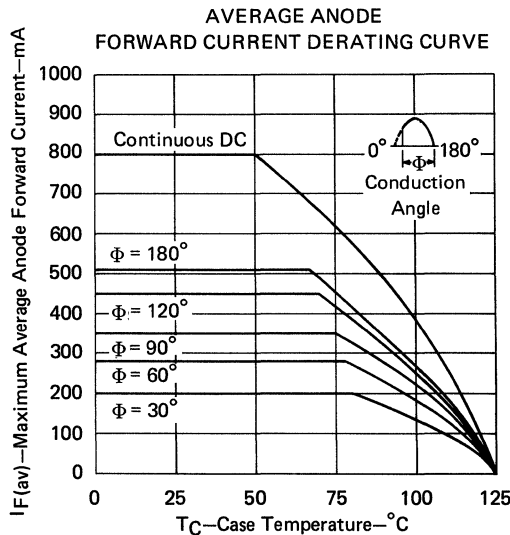

FIGURE 1
2. These values apply for continuous d-c operation with resistive load. Above 50°C derate according to Figure 1.
3. This value may be applied continuously under single-phase 60-Hz half-sine-wave operation with resistive load. Above 67°C derate according to Figure 1.